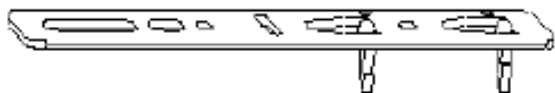

Figure 11. Non load bearing installation bracket for fixed lights (non-openable products)
8. With DK22 and SW14 Fireguard windows it is possible to build non load bearing module walls (i.e. the fixed light may be fixed together and openable windows fixed with fixed lights). See figures 11 and 12.